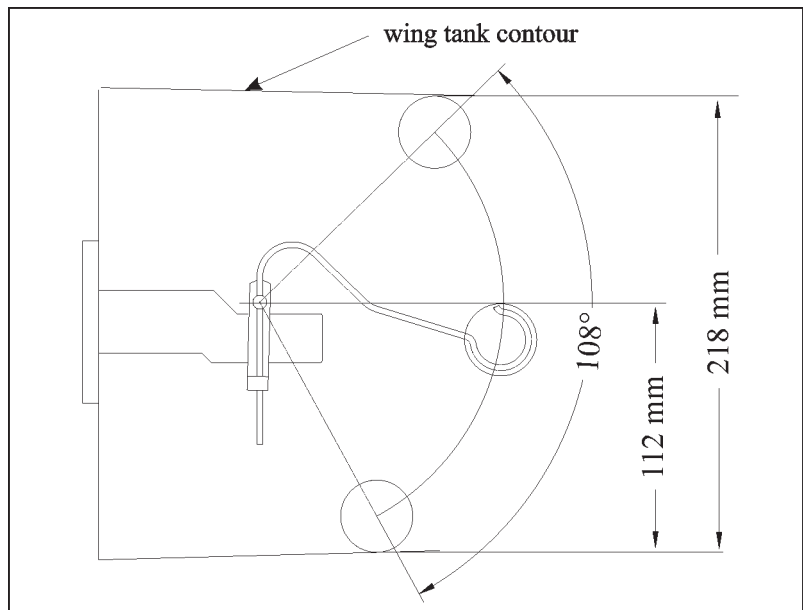

Figure 14 *Float Wire Installation*
- 3 Reinstall the float wire observing the dimensions shown in figure 14, pay attention to a proper alignment and tighten well the attachment bolt.